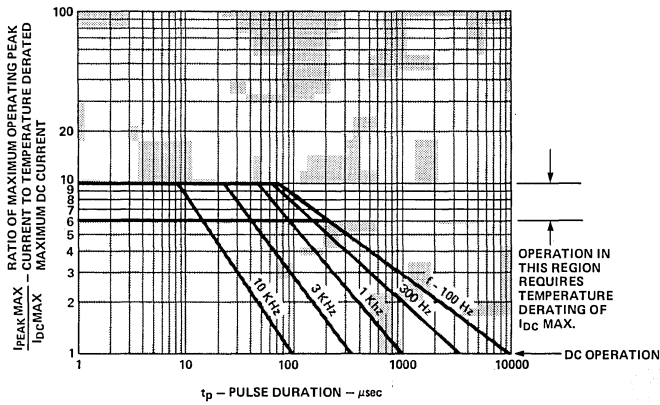

Figure 1. Maximum Tolerable Peak Current vs. Pulse Duration.
- See Figure 1 to establish pulsed operating conditions.